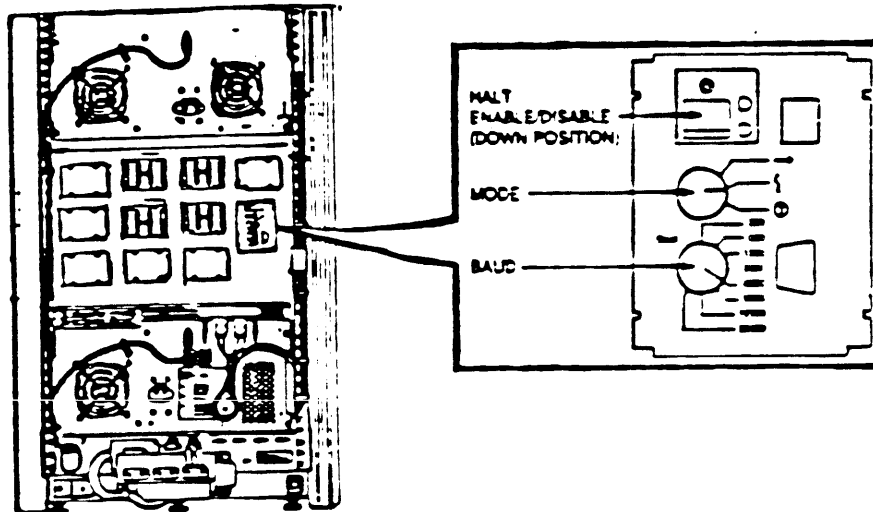

Figure 2-24. Set the controls on the CPU Distribution Insert.
Step 14: Set the controls on the CPU distribution panel on the rear of the unit (see Figure 2-24) to the positions listed below.